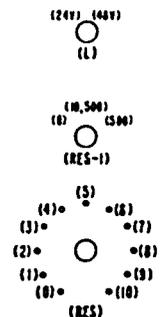

FIGURE 1
1.3.1 The ITE-4011 Miscellaneous Trunk Test Set is used to simulate office conditions. The various test set-ups are shown on Figure 1.
5.1.2 Connect and patch ITE-4011 as indicated in Figure 1.
5.13 When the trunk is arranged for coin lines (SD Fig. 2 furnished), connect (RES-2) to (GRD-G1) and (RES-1) to (OR-T1) per Figure 1.